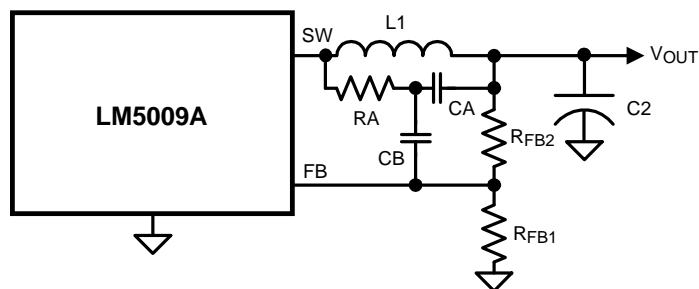

Figure 16. Minimum Output Ripple Using Ripple Injection
b) Minimum ripple configuration: If the application requires a lower value of ripple (<10 mVp-p), the circuit of Figure 16 can be used. R_3 is removed, and the resulting output ripple voltage is determined by the inductor's ripple current and C_2 's characteristics. R_A and C_A are chosen to generate a sawtooth waveform at their junction, and that voltage is AC-coupled to the FB pin via C_B . To determine the values for R_A , C_A and C_B , use the following procedure: